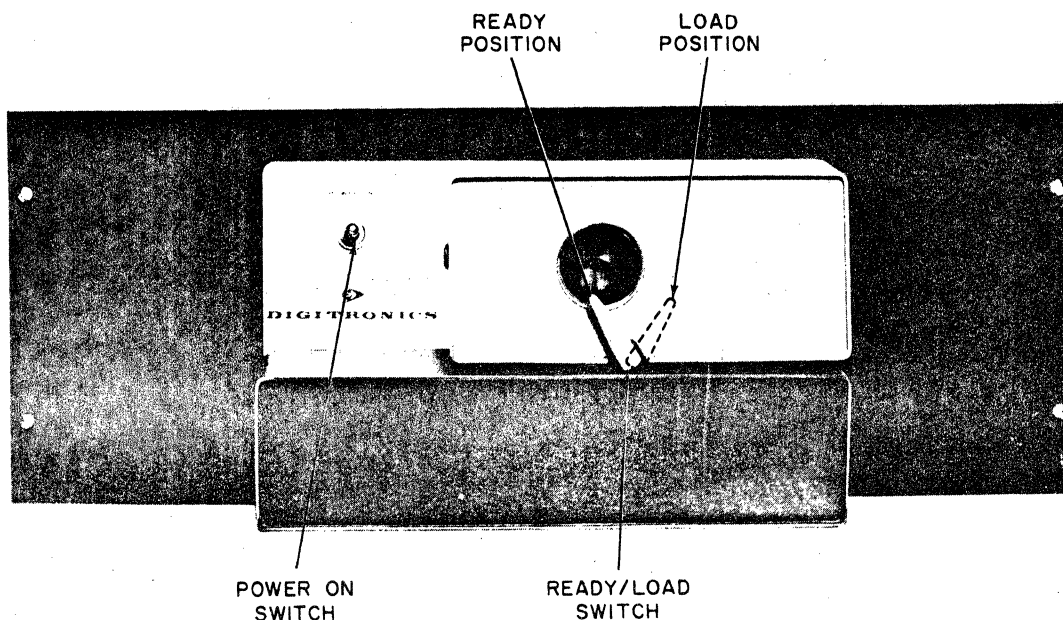

Figure 3-1. Operating Controls
The operating controls (see Figure 3-1) and their functions are described in Table 3-1.
- b. Move the READY/LOAD switch to the LOAD position (see Figure 3-1).